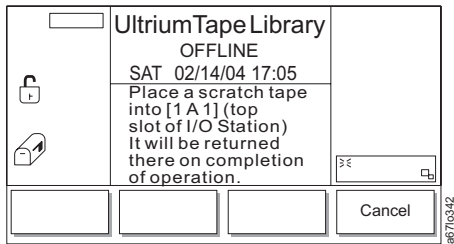

Figure 4-184. Verify Test Scratch Tape Dialog
6. When the correct value is selected, press the button below the **OK** softkey. The Verify Test Scratch Tape Dialog displays (see Figure 4-184 on page 4-101).